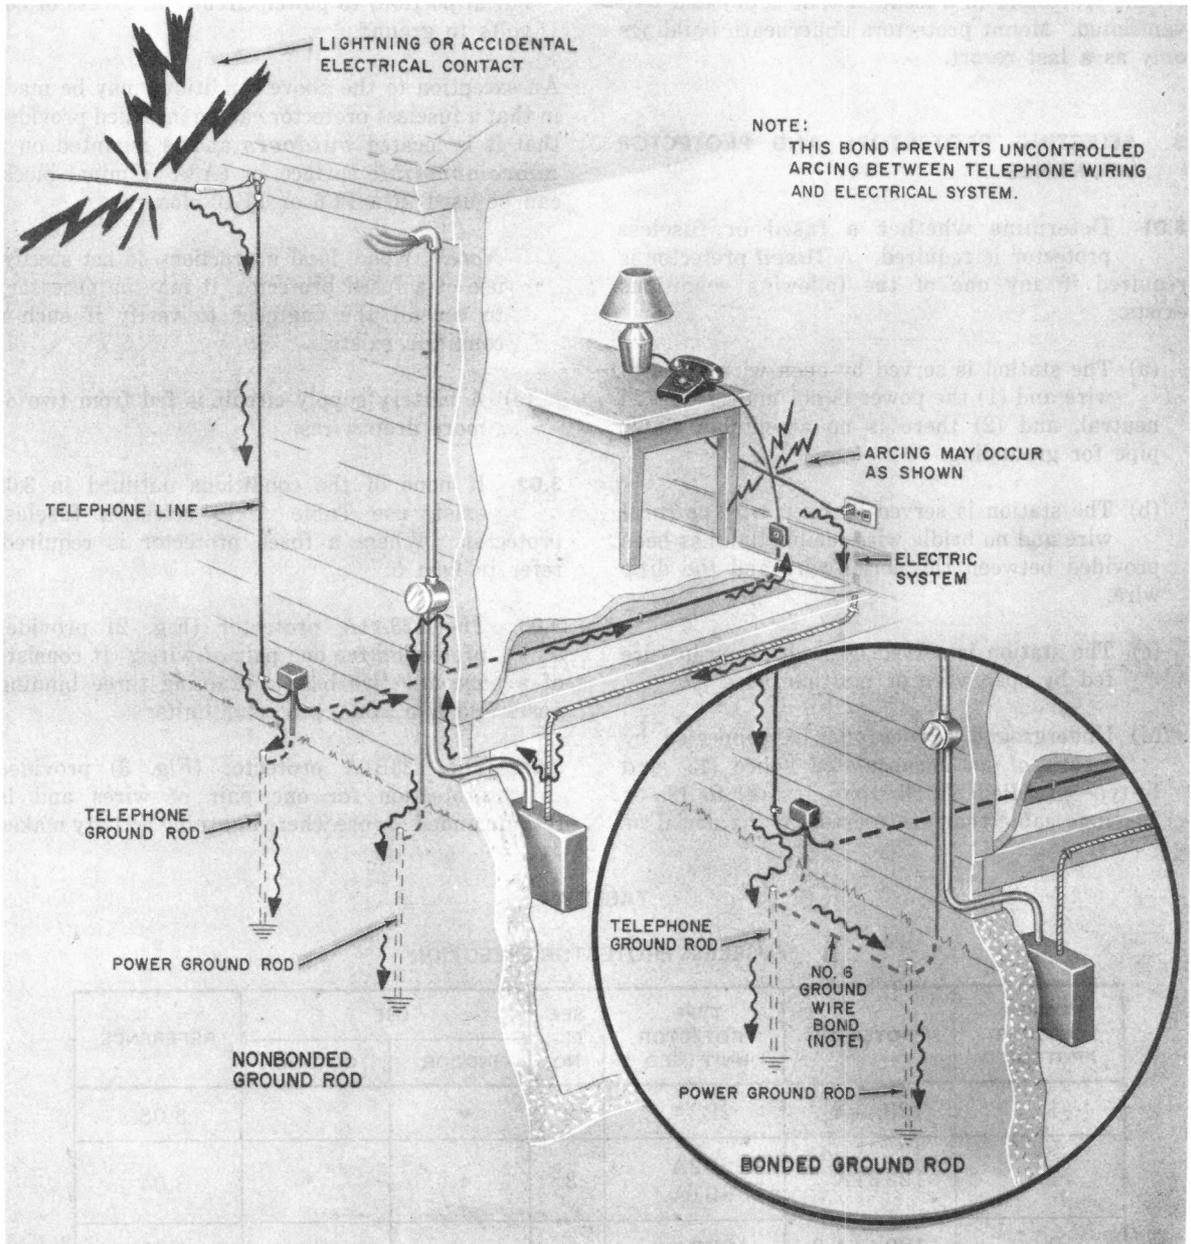

Fig. 1—How Bonding Reduces Differences of Potential Between Telephone Wiring and Electrical Systems That are Grounded to Separate Electrodes
1.09 Nearby lightning strokes can develop large potential (voltage) differences between telephone wiring, power wiring, water pipes, and building steel. Therefore, it is important that these systems be bonded together on the telephone customers' premises and the bonding conductors be as short and as straight as possible (see Fig. 1).